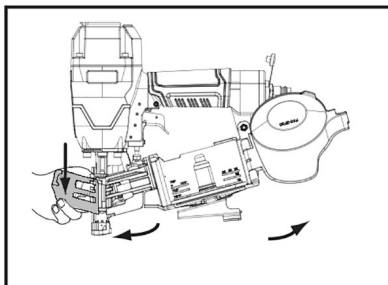

Fig. 3
4. Continue to hold the button down and swing the nail guide cover outward. Open the magazine cover (#92) open to reveal the nail compartment (Fig. 3).
6. Move the nail holder (#101) up and down to align the plate of the nail holder with the mark on the magazine (J) that corresponds with the length of the nails being used (see Specifications).